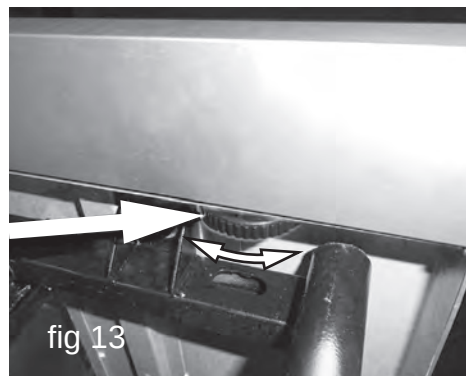

fig 13
4. To move the extension out, release the extension lock- a roller under the right side of the table (see a view from below the front rail, fig 13), then grasp the extension table hand grip and pull it.